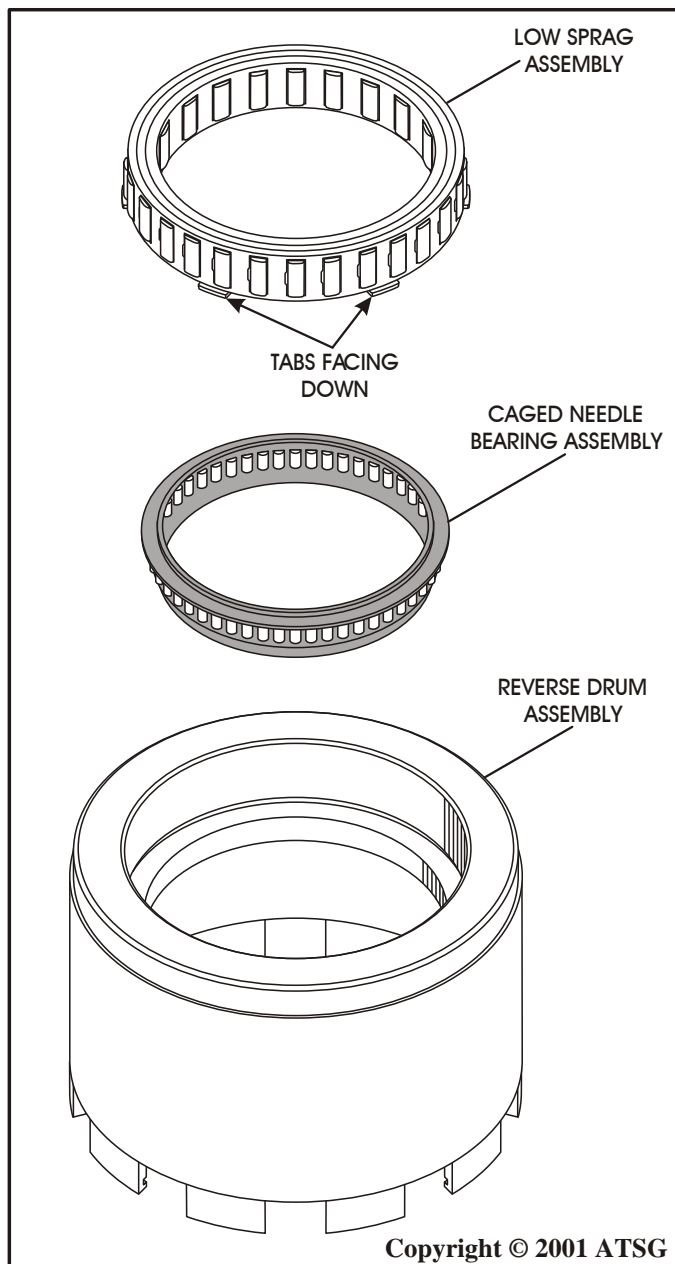

Figure 95
2. If you do take it apart, the bearing assembly must be installed first, in the direction shown in Figure 95.
3. Then install the low sprag assembly, with the tabs facing down, as shown in Figure 95, until it "Snaps" into the groove.